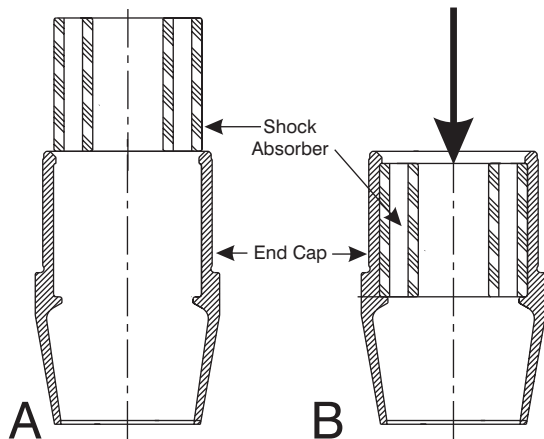

Figure 9-1. End Cap and Shock Absorber in Press
1. Lubricate the O.D. of the Shock Absorber (8) and the I.D. of End Cap (9). Position the End Cap (9) in an arbor press with the threaded end up as shown in Figure 9-1-A.
2. Center the Shock Absorber (8) over the threaded end of the End Cap (9) as shown in Figure 9-1-A.
the non-threaded end of the cap as shown in Figure 9-1-B.